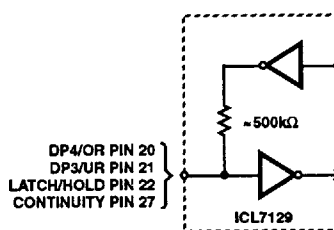

FIGURE 6. "WEAK OUTPUT"
Four pins of the ICL7129 can be used as either inputs or outputs. The specific pin numbers and functions are described in the Pin Description table. If the output function of the pin is not desired in an application it can easily be overridden by connecting the pin to V_+ (HI) or DGND (LO). This connection will not damage the device because the output impedance of these pins is quite high. A simplified schematic of these input/output pins is shown in Figure 6. Since there is approximately 500k Ω in series with the output driver, the pin (when used as an output) can only drive very light loads such as 4000 series, 74CXX type CMOS logic, or other high input impedance devices. The output drive capability of these four pins is limited to 3 μ A, nominally, and the input switching threshold is typically DGND + 2V.